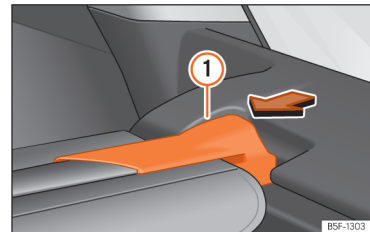

Fig. 179 In the luggage compartment: remove the shelf.
- Press the rear shelf support >>> Fig. 179 (1) in the direction of the arrow.
- Engage the support of the rear shelf >>> Fig. 179 (A) into the housing on the other side.